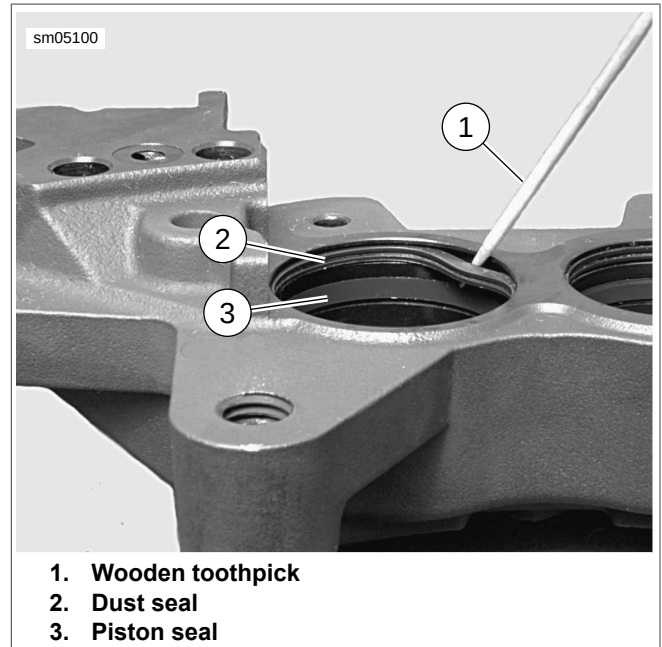

Figure 2-79. Caliper Seals
8. See Figure 2-79. Using a wooden toothpick (1), remove dust seal (2) and piston seal (3) from each caliper bore. Discard seals.
2. See Figure 2-79. Install a **new** piston seal (3) and a **new** dust seal (2) into each piston bore.